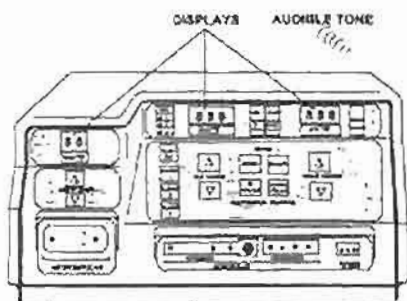
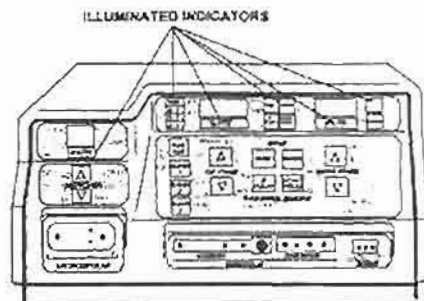

Figure 4-20. Self-test displays.
Figure 4-21. Self-test illuminated indicators.
- Observe the control panel. The following control panel actions will automatically occur (fig 4-20 and fig 4-21).